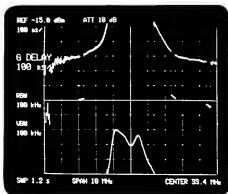

Fig. 7-7 Group delay measurement
- 9 The group delay of the filter can be observed by pressing the GROUP DELAY key (Figure 7-7).